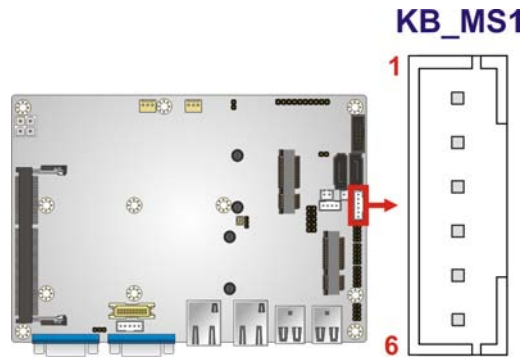

Figure 4-9: Keyboard/Mouse Connector Location
- CN Location: See **Figure 4-9**